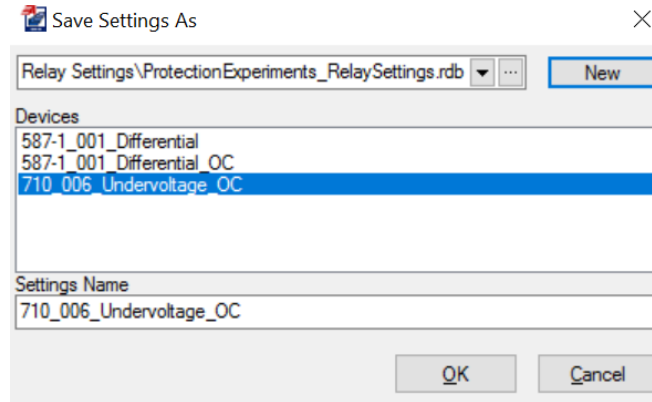
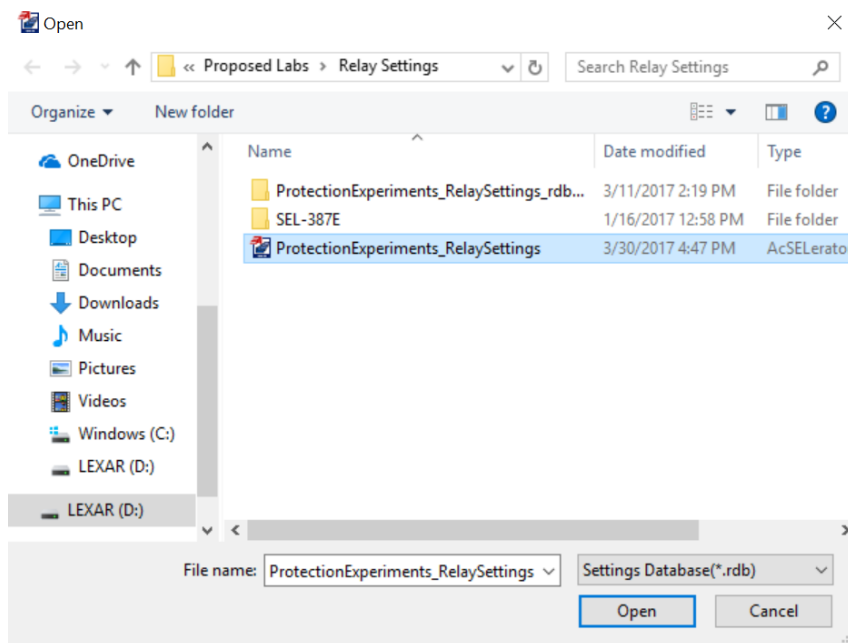

Figure 71: Saving SEL-710 Settings
Figure 72: Choosing Location for New SEL-710 Relay Settings Database
- 64. Save this relay settings database file (File, Save As; New if you do not want to use an existing settings database) in a location where it may be reused in future experiments. See Figure 71 and Figure 72. Then create a Settings Name for this settings file.